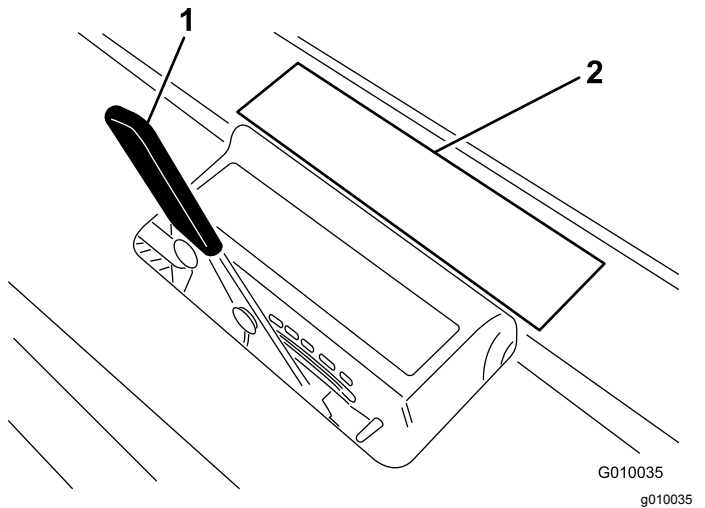

Figure 28
- Lay the tine on the tine depth decal (Figure 28) with 1 end lined up with the desired depth of aeration (refer to the tine overlay on the decal).